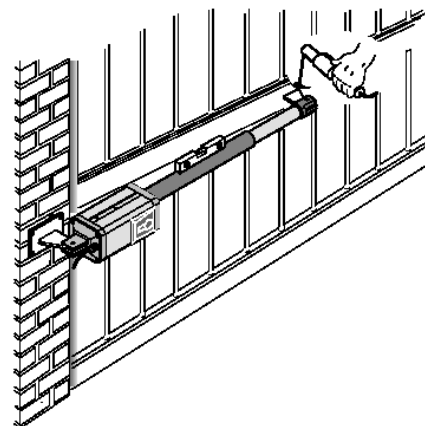

Figure 9
6. **Temporarily** fix the front mounting bracket to the gate by two short welds (fig.9). **Be sure that this point provides a secure attachment point for the actuator (see 1.3). Ensure that the gate opens and closes fully without any binding.**